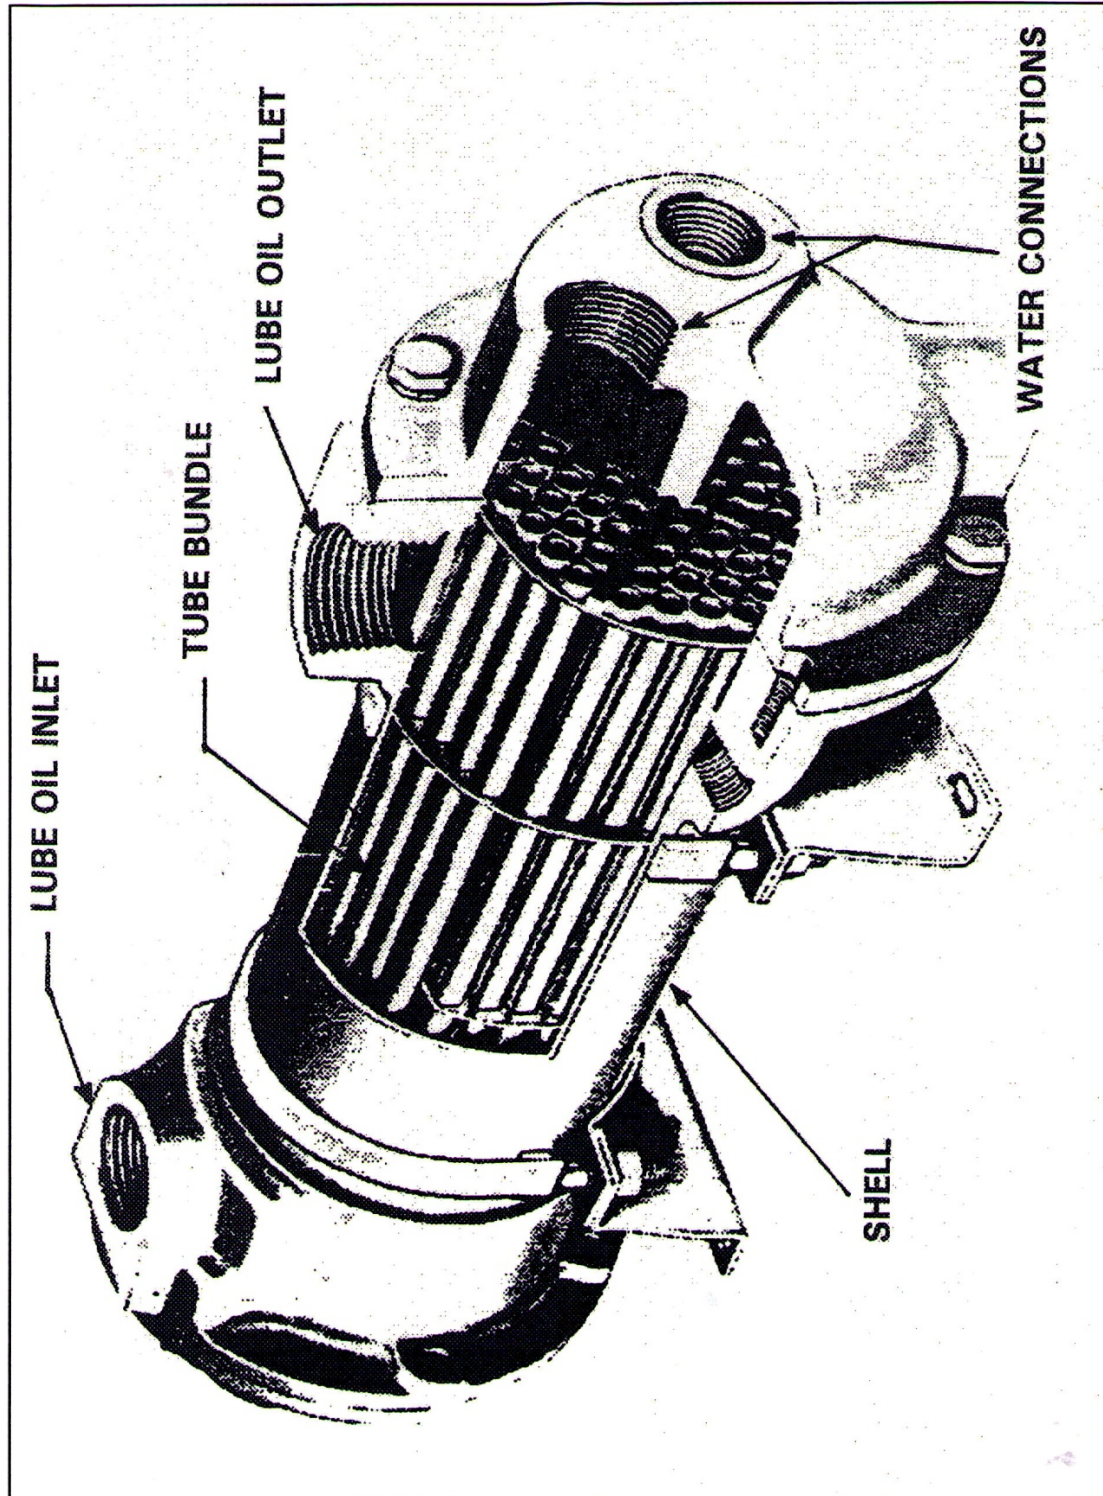

Figure 5-10 Lubricating Oil Cooler
5.2.5 Lube Oil Cooler (Figure 5-10)